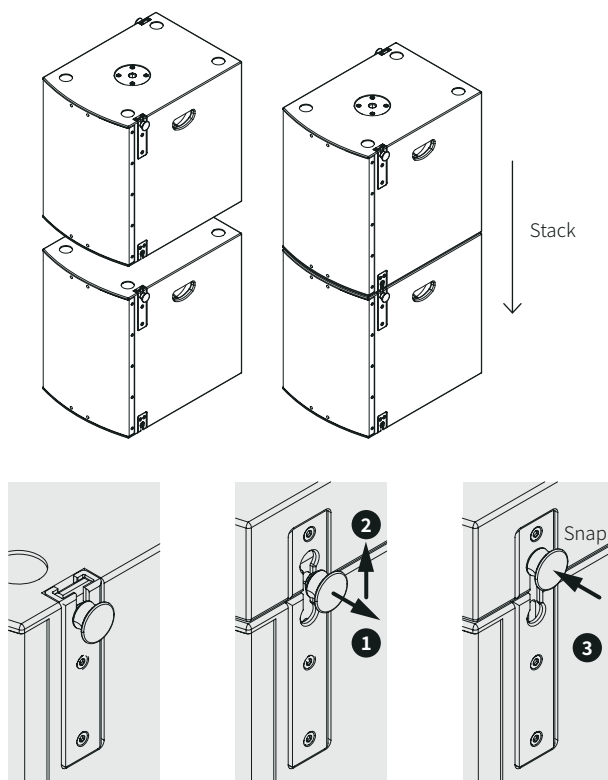

Figure 7. Linking system for stacks in S12 PRO and S15 PRO subwoofers.
- Side locking points: Male lever on the top of the cabinet and the female receptacle on the bottom. These must be locked when S12 PRO or S15 PRO subwoofers are used in stacked systems as described below and shown in figure 7:
2. Fix the M-F3A S12 PRO SFi or M-F3A S15 PRO SFi stacking frame to the subwoofer using the locking points located at both sides, as shown in figures 7 and 10.
Notice that the previous setup can also be done on top of stack of S12 PRO or S15 PRO subwoofers, deployed as indicated in the figures 7 in subsection Rigging Components. In those cases, maximum 3 S12 PRO and 2 S15 PRO subwoofers should be stacked.